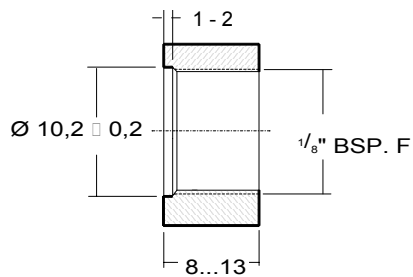

Fig. 5. Mounting hole dimensions for T7335A/C
- Mount the sensor in a properly dimensioned mounting hole according fig 5.